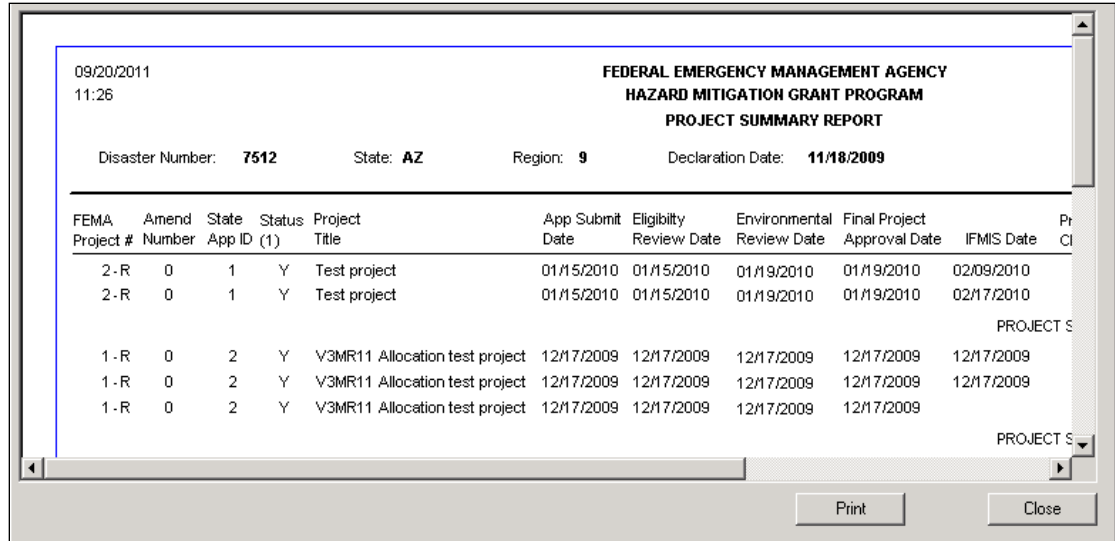

Figure 11-30: Project Summary Report
- On the bottom right part of the screen, (See Figure 11-27), click the PROJECT SUMMARY button. The Project Summary report is displayed (Figure 11-30).